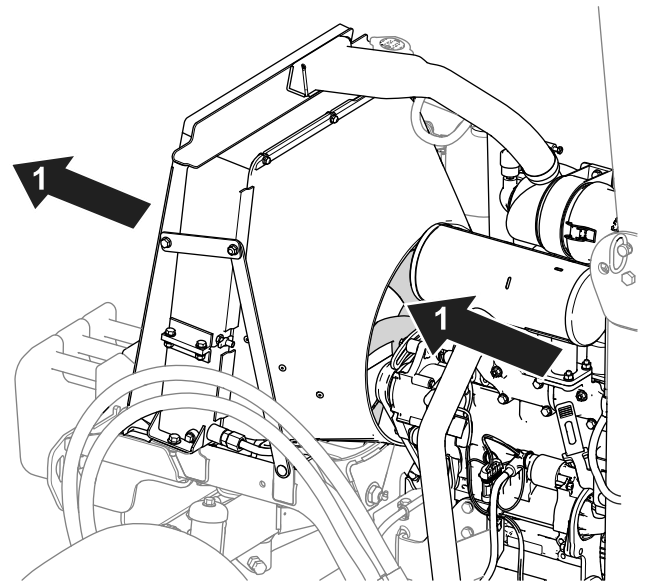

Figure 71
- Use compressed air to clean the radiator fins. Direct the air out from the machine (Figure 71).